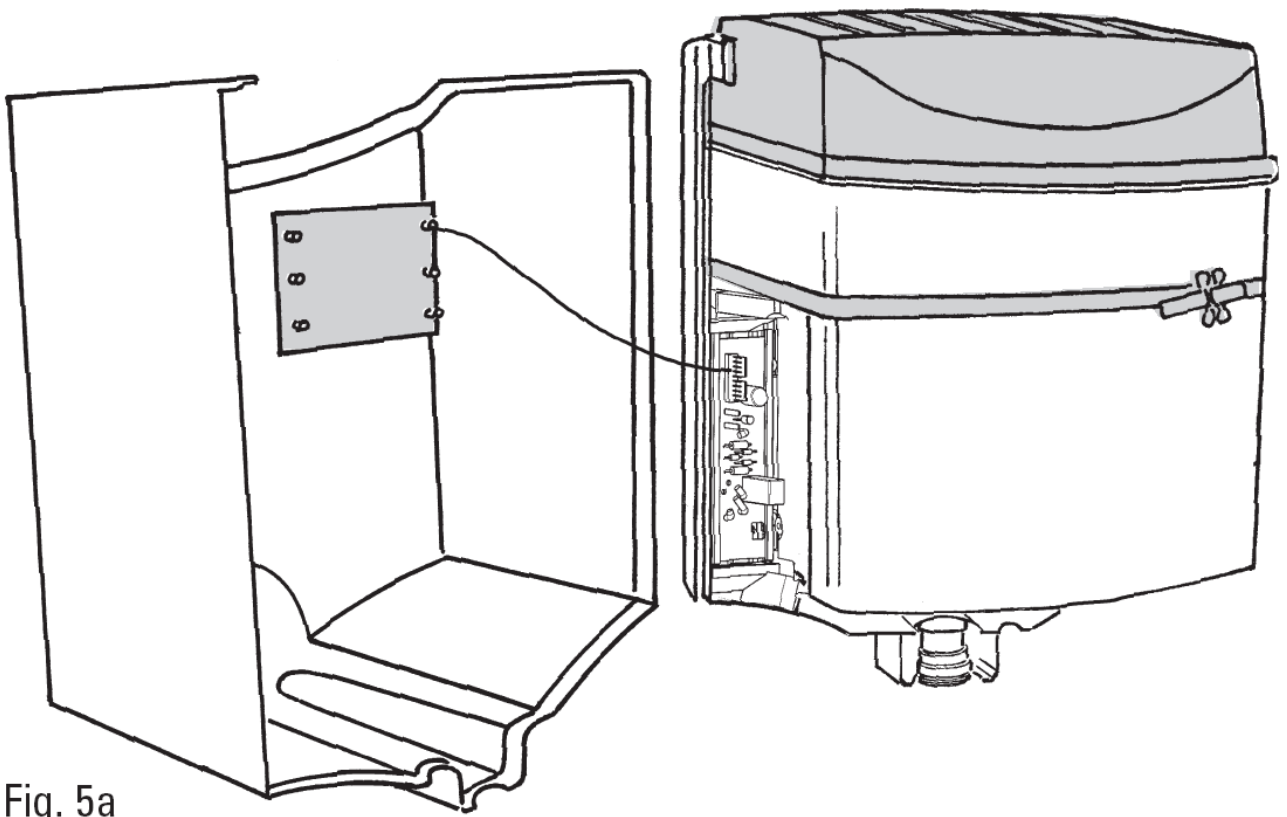
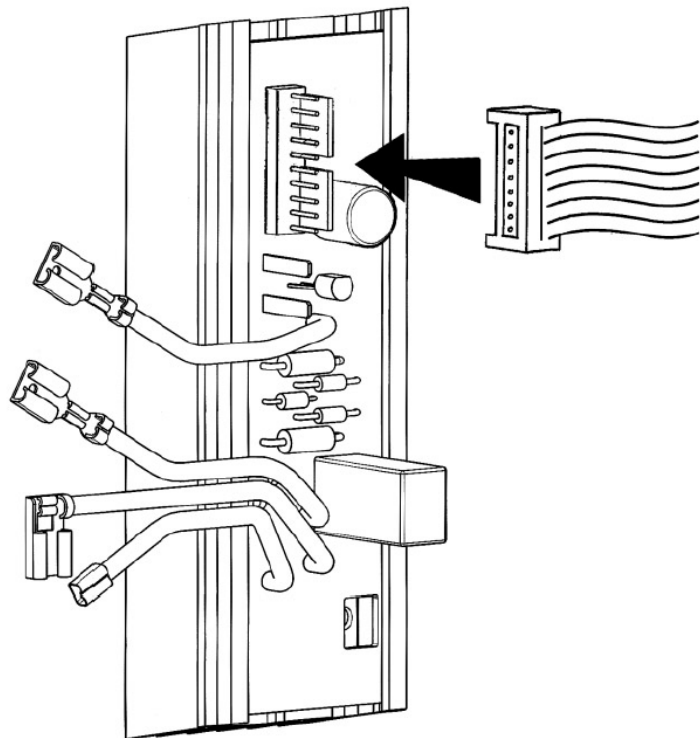

Fig. 5a
Fig. 5b
- Pull the front cover away from the unit and carefully remove the flying-lead and plug from the back-plate connector (Fig 5a and Fig.5b).
b) All the light are out and the POWER button does not work	<p>Ensure that the electricity supply is switched on at the local isolator.</p> <p>Ensure that the flying lead to the front cover is connected properly (see Fig.5a and 5b).</p> <p>Check the supply to the PCB. If supply OK then change PCB.</p>